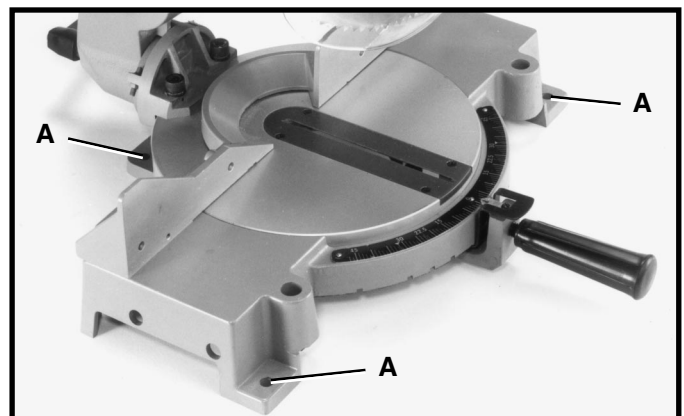

Fig. 12
Before operating your compound miter saw make sure it is firmly mounted to a workbench or other supporting surface. Four holes are provided, three of which are shown at (A) Fig. 12, for fastening the saw to a supporting surface.